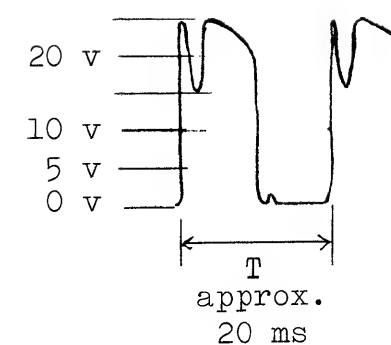

Fig. 1-1
- Check that one cycle of waveform is approx. 20 ms (fig. 1-1).